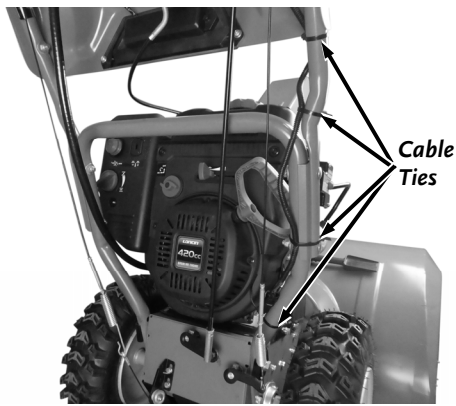

Figure 20
20. Install Cable Ties to secure the Wire Harness to the Handlebar, making sure that the Cables are not on top of the Handlebar where they can interfere with the Starter Pull Cord (**Figure 20**). Wear eye protection as you cut the excess ends of the Cable Ties using Wire Cutters.